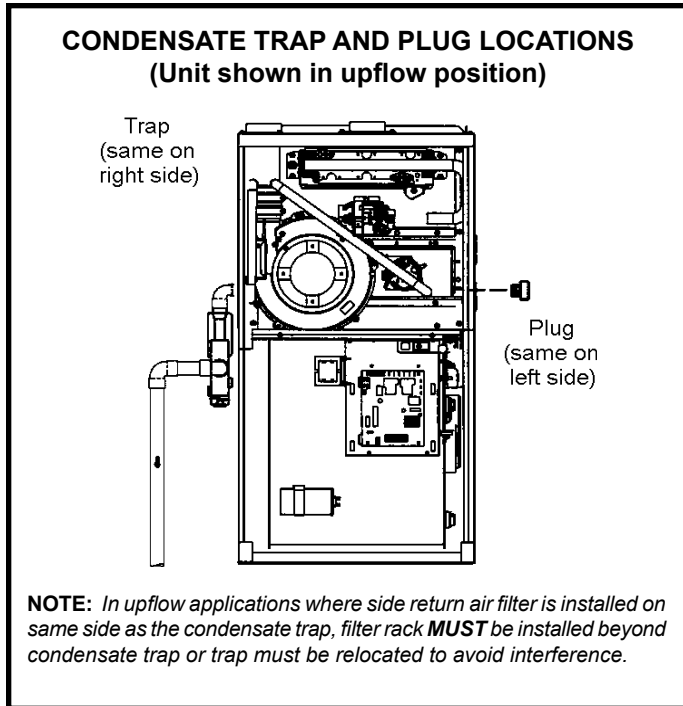
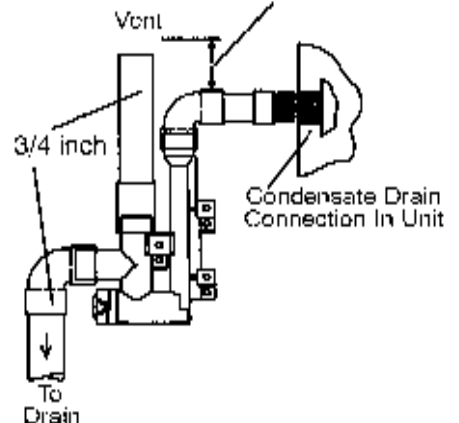

Figure 48
Figure 55
This unit is designed for either right or left side exit of condensate piping in upflow applications. In horizontal applications, the condensate trap must extend below the unit. An 8" service clearance is required for the condensate trap. Refer to Figure 48 and 50 for condensate trap locations. Figure 55 shows trap assembly using 1/2" PVC or 3/4" PVC.
2. Use a large flat head screw driver or a 1/2" drive socket extension and remove plug (Figure 48) from the cold end header box at the appropriate location on the side of the unit. Install provided 3/4 NPT street elbow fitting into cold end header box. Use Teflon tape or appropriate pipe dope.
3. Install the cap over the clean out opening at the base of the trap. Secure with clamp. See Figure 55.
4. Install drain trap using appropriate PVC fittings, glue all joints. Glue the provided drain trap as shown in Figure 55. Route the condensate line to an open drain. *Condensate line must maintain a 1/4" downward slope from the furnace to the drain.*